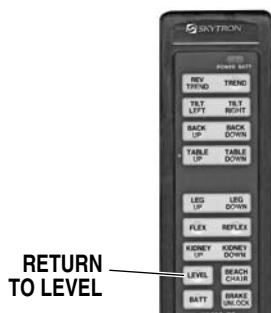

Figure 2-13. Return To Level
i. Return To Level. To return the table top to a level position, press the LEVEL button (figure 2-13).